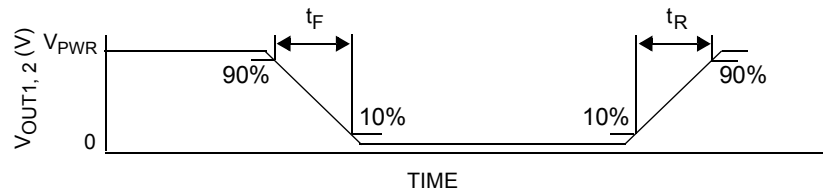

Figure 6. Output Switching Time
27. Rise Time is from the 10% to the 90% level and Fall Time is from the 90% to the 10% level of the output signal with  $V_{PWR} = 14\text{ V}$ ,  $R_{\text{LOAD}} = 3.0\text{ ohm}$ . See Figure 6, page 9.